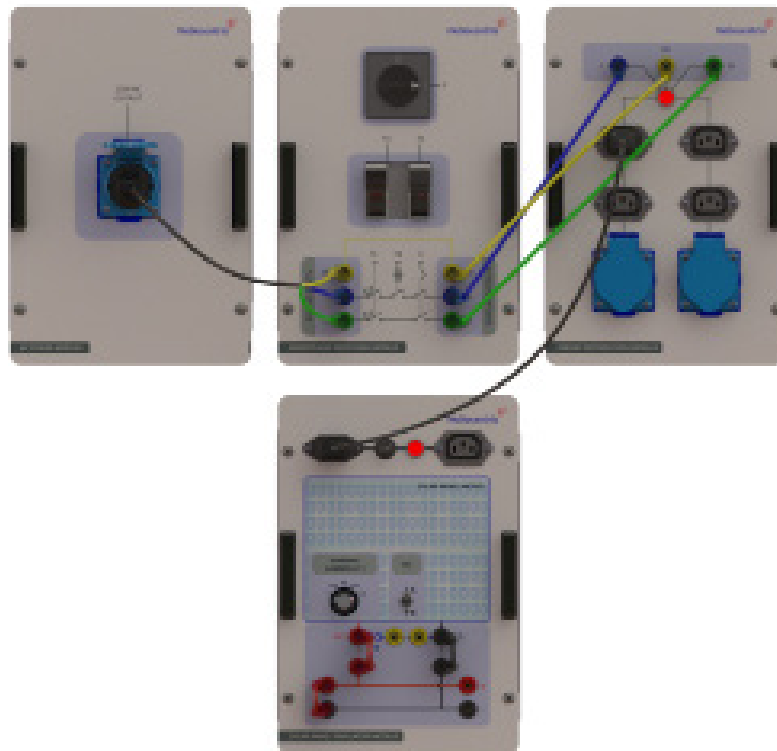

Figure-2
- 7) Connect as shown in figure-2 to measure the photovoltaic panel short-circuit voltage.